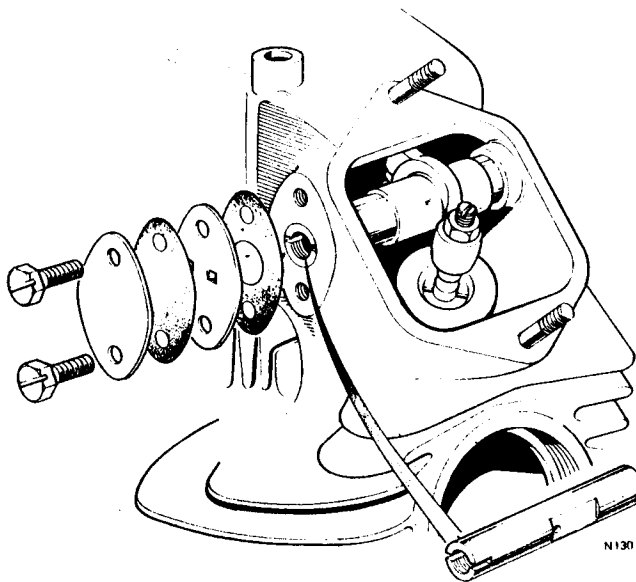

Fig. C7 Aligning rocker spindle
- 6 Align the rocker spindle as shown in *Fig. C7*.